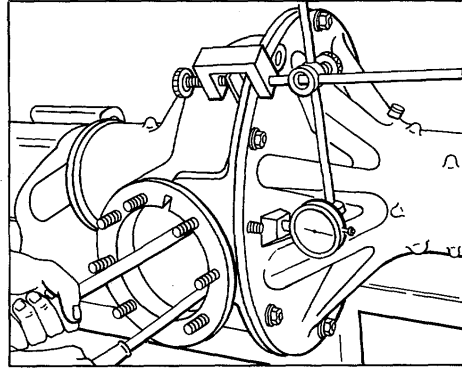

Figure 10.
7. Check differential and gear assembly end play with dial indicator through thrust block pinhole against gear (refer to Fig. 10).